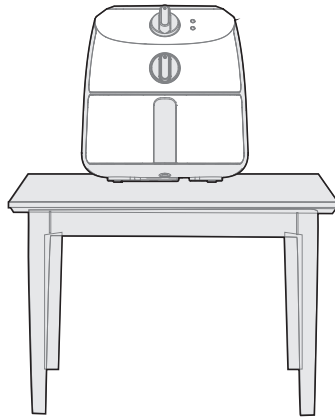

Figure 1
1. The product should be stably placed on a flat table (Figure 1), so that the power cord has a sufficient length to be plugged into the socket, and the air around the product should be kept in circulation, and should not be close to flammable items.